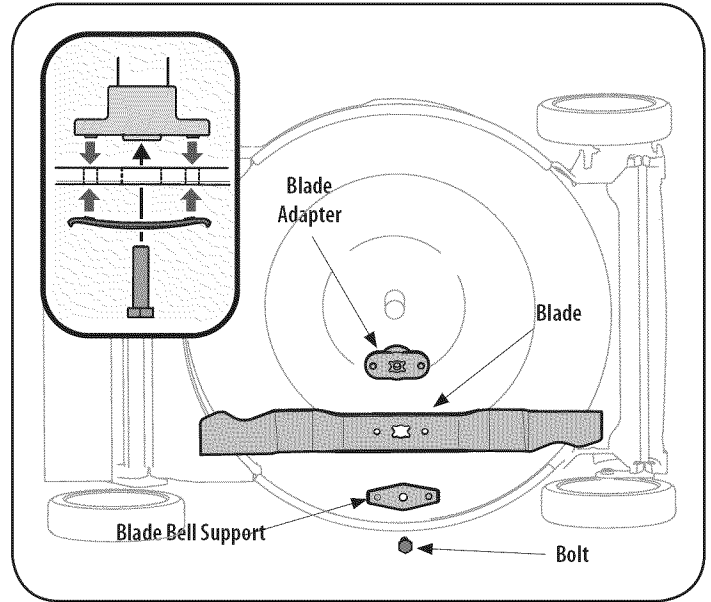

Figure 16
2. Remove the bolt and the blade bell support which hold the blade and the blade adapter to the engine crankshaft. See Figure 16.
5. Lubricate the engine crankshaft and the inner surface of the blade adapter with light oil. Slide the blade adapter onto the engine crankshaft. Place the blade on the adapter such that the side of the blade marked "Bottom" (or with part number) faces the ground when the mower is in the operating position. Make sure that the blade is aligned and seated on the blade adapter flanges. See Figure 16 inset.